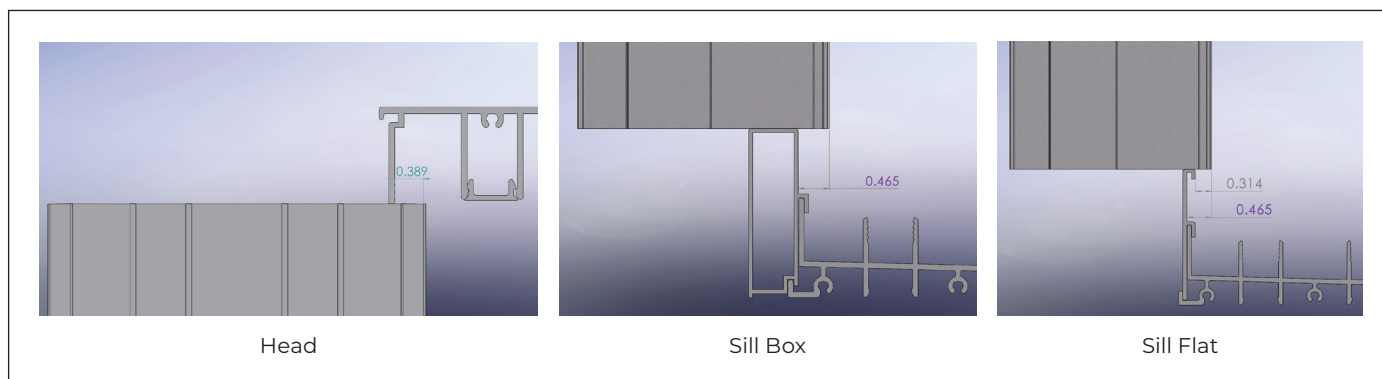

Figure 15
- 12. If a panel** is not available to set the location of the p-hook from inside to outside then align the p-hook with the riser and header as shown. (See Figure 15)